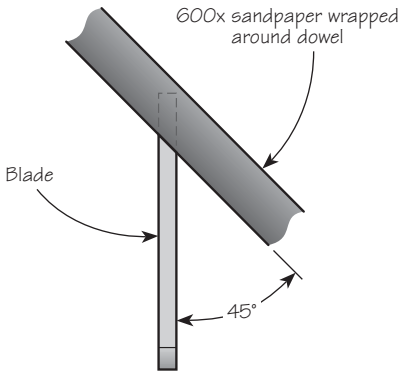
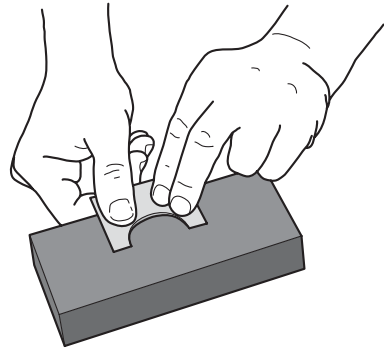

Figure 4: Honing.
Figure 5: Lapping.
Step 2 — Honing: Use a carver's slip or a sheet of 600x sandpaper wrapped around a dowel to hone the cutting edge bevel as shown in **Figure 4**. Hone only until a fine wire edge develops. Then, as shown in **Figure 5**, lap the face of the blade near the cutting edge on a 1000x stone to achieve the same finish as on the bevel. A sharp edge can only be achieved by creating two intersecting surfaces honed to the same degree.